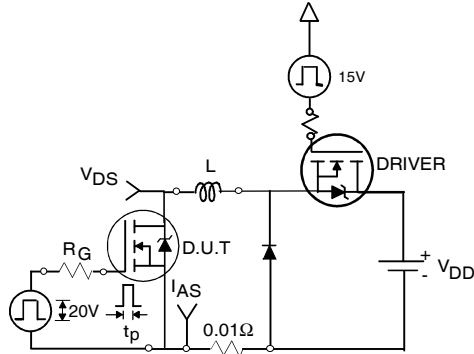

Fig 12a. Unclamped Inductive Test Circuit
- ③ I_{SD} ≤ 125A, di/dt ≤ 260A/μs, V_{DD} ≤ V_{(BR)DSS}, T_J ≤ 175°C
- ④ Pulse width ≤ 400μs; duty cycle ≤ 2%.
- ⑤ C_{oss eff.} is a fixed capacitance that gives the same charging time as C_{oss} while V_{DS} is rising from 0 to 80% V_{DS}.
- ⑥ Calculated continuous current based on maximum allowable junction temperature. Package limitation current is 90A.
- ⑦ Limited by T_{Jmax}, see Fig.12a, 12b, 15, 16 for typical repetitive avalanche performance.
3. Equation below based on circuit and waveforms shown in Figures 12a, 12b.